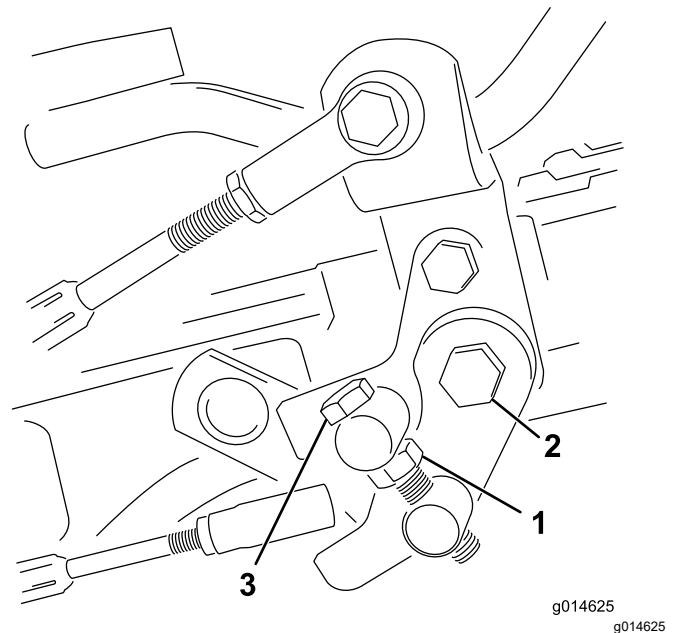

Figure 39
1. Loosen the jam nut on the trunnion bolt (Figure 39).
4. Tighten the jam nut on the trunnion bolt and the nut on the pedal pivot to lock the adjustment (Figure 39). Check the adjustment and adjust as required.